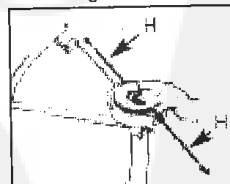

Fig. 9F
9. When the reel is in the housing, push it firmly into the housing to tension the spring. Pull firmly on both ends of line (H) to prevent it from getting squeezed between the reel and the housing (Fig. 9F).